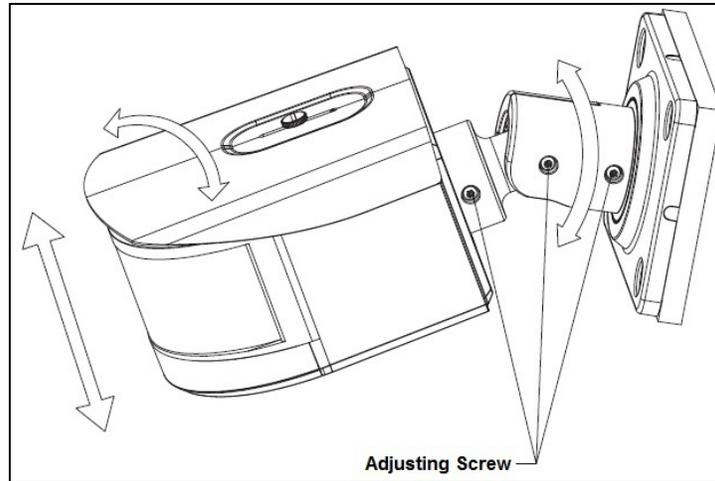

Figure 4-4
16. Adjust the monitoring direction of the camera. Use the Multi-purpose Tool to loosen the three set screws along the shaft of the camera, then position the camera by tilting, twisting, and rotating the camera as shown in Figure 4-4, below.
**Note:** Do not rotate the camera more than three (3) times in any one direction.